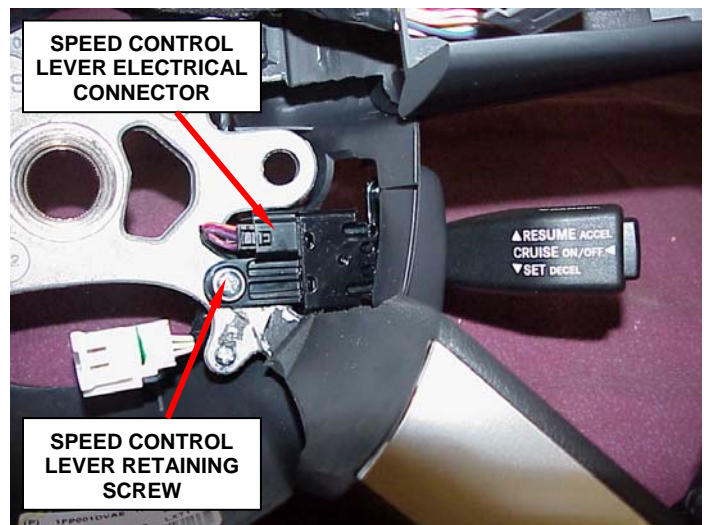

**Figure 3 – Speed Control Back Cover**
- Remove the speed control switch back cover (Figure 3).
16. Install the speed control lever back cover (Figure 3).